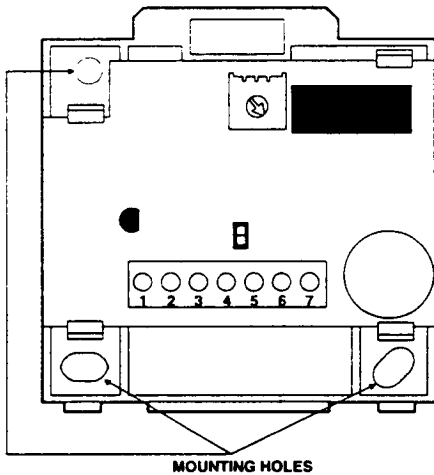

Figure 2. Mounting Hole Locations
- Place the ESM on the wall at the desired location and mark the upper-left and lower-right mounting holes (see Figure 2).